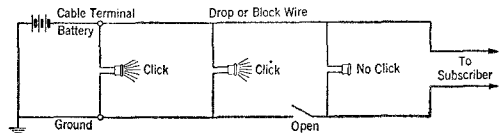

Fig. 8
**3.02** To locate an open in the drop or block wire plant, isolate the fault by making successive tests at different points in the line with the hand test set. (See Figure 8.)